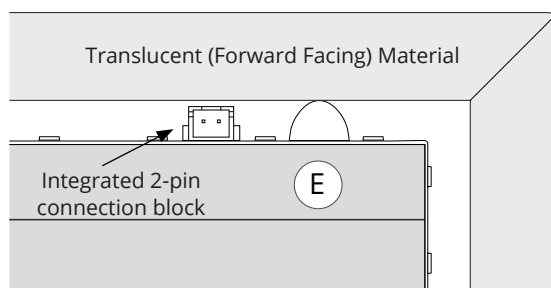
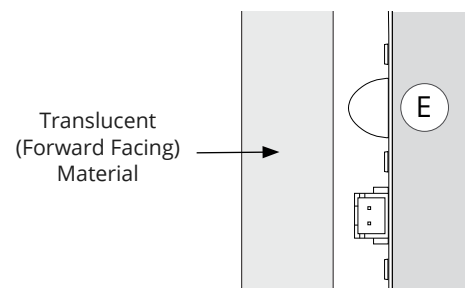

Figure 4
Figure 5
Domed spacing bumpers (E): The domed spacing bumpers (E) included with each Light Sheet have been engineered to bear the weight of translucent materials in horizontal applications and act as a safeguard in vertical applications so that the forward facing material does not harm the 2-pin connection blocks nor the LEDs. It is recommended to use eight bumpers per Light Sheet (approximately six per square foot), spacing them evenly to distribute the weight of the forward facing material (see Figure 4) and to add a level of protection in vertical applications when the forward facing material will be positioned near the Light Sheet (see Figure 5). When an application must bear more than 100 pounds per square foot (488 kg per square meter) of weight and/or bears live load.